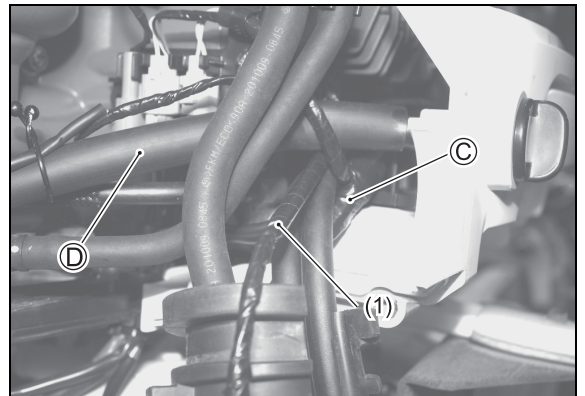

Fig. 2
4. Pass the engine adapter wire (1) between the engine harness (C) and the water flush hose (D) as shown in Fig. 2.